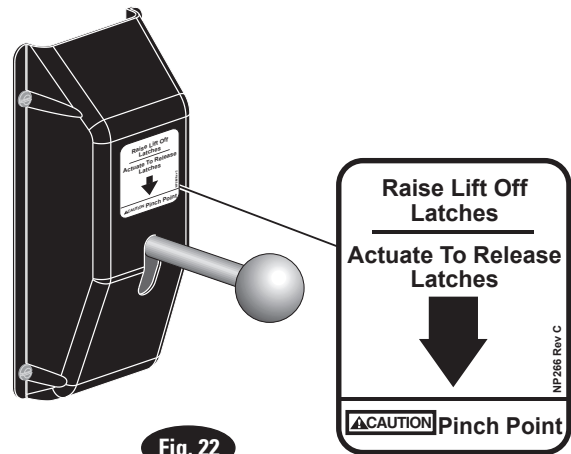

Fig. 22
**23. Latch Release Decal:** Install latch release decal on cover above latch release handle, Fig. 22.